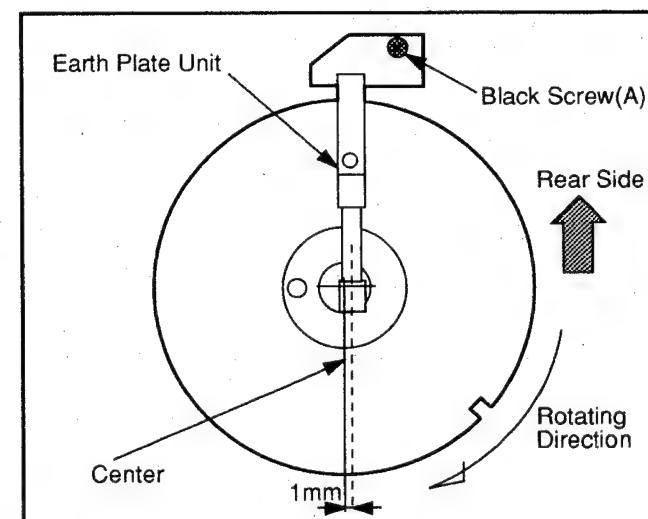

Fig. M6
Remove the Mechanism see if the Earth Plate Unit is more than 1mm (but not more than 2mm) from the center of the plate to the in Fig. M6. If required, a loosening Black Screw
Remove the Mechanism Unit. Place it upside down. Check to see if the Earth Plate Unit is properly set in a position just less than 1mm (but not more than 1mm), as measured from the center of the plate to the center of the Cylinder Shaft as shown in Fig. M6. If required, adjust the Earth Plate Unit position by loosening Black Screw (A).